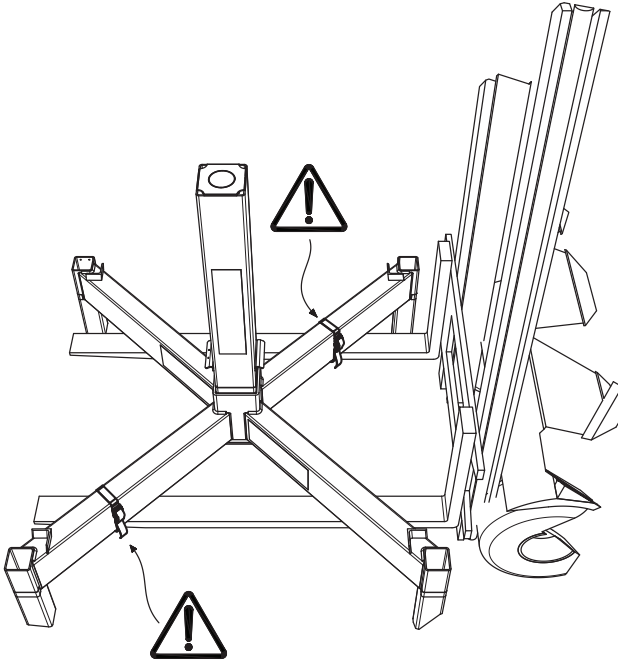

Figure 26. Use the included Combistraps to secure the Top Frame to the forks prior to lifting.
7. Using a forklift truck, place the forks underneath the horizontal tubes of the Top Frame, spread the forks as wide as possible and then, if needed, secure the Top Frame assembly with the two supplied Combistraps before lifting. Straps shall be attached diagonally to each fork to ensure a safe lift, see Figure 26 below. Remember that the straps should be tightened firmly.